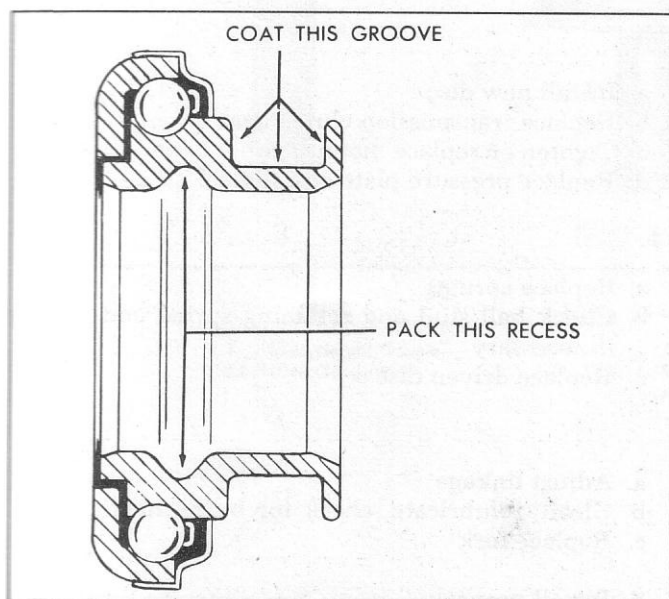

Fig. 23—Throwout Bearing Lubrication
7. Lubricate the recess on the inside of throwout bearing collar and the throwout fork groove with a light coat of graphite grease (fig. 23).